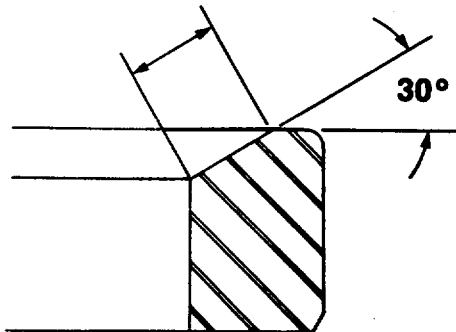

FIGURE 4-31. Valve Seat Angle and Width
(10) Use valve seat grinding machine and valve guide arbor set to grind the insert to the angle and width shown in FIG. 4-31.